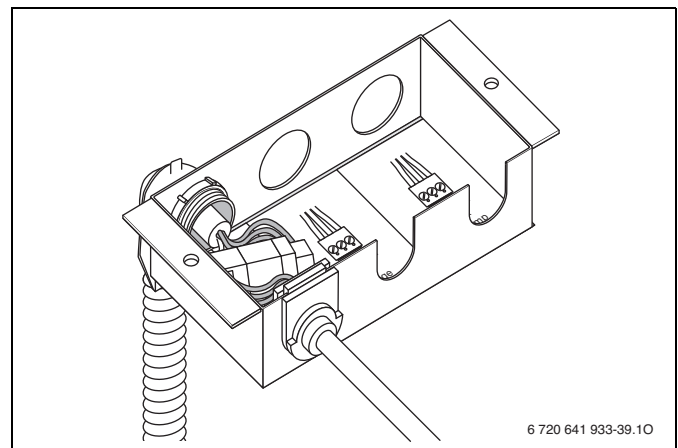

Fig. 50 Cable connected (mains power supply)
- ▶ Insert cable into the junction box as shown in Fig. 50.